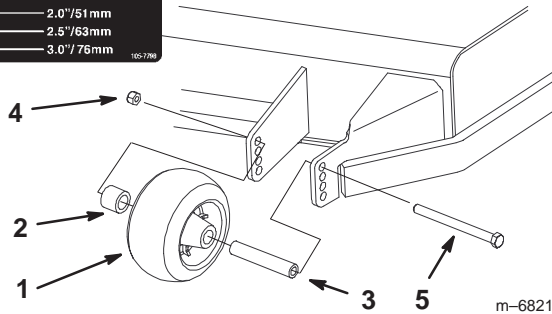

Figure 18
2. After adjusting the height-of-cut, adjust the rollers by removing the flange nut, bushing, spacer, and bolt (Figures 18, 19 and 20).
3. Select a hole so the anti-scalp roller is positioned to the nearest corresponding height-of-cut desired (Figures 18, 19 and 20).
4. Install the flange nut bushing, spacer, and bolt. Torque to 40–45 ft-lb (54–61 N·m) (Figures 18, 19 and 20).